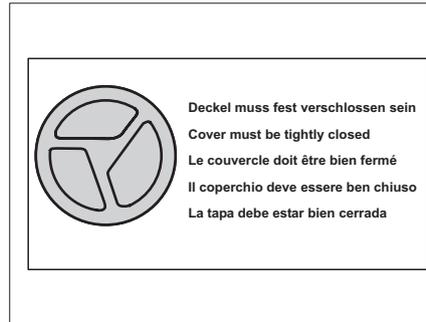

Fig. 96 Warning sign cap
- ▶ Check before the journey whether both caps are closed. Observe the warning sign (Fig. 96).